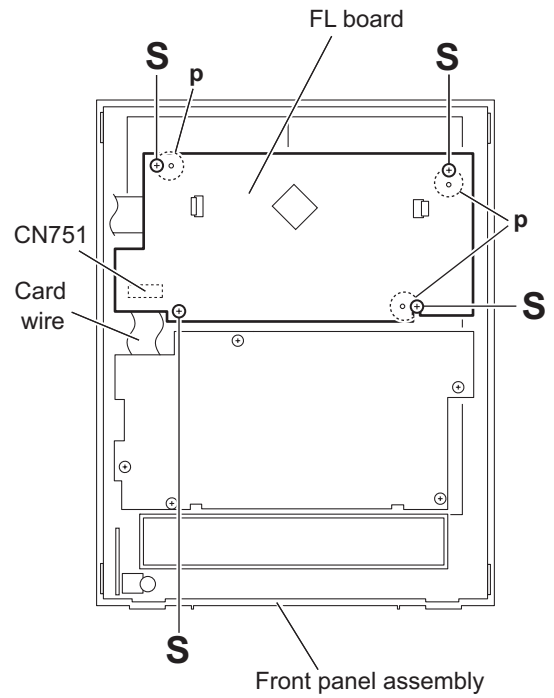

Fig.24
3.1.14 Removing the FL board (See Fig.24)